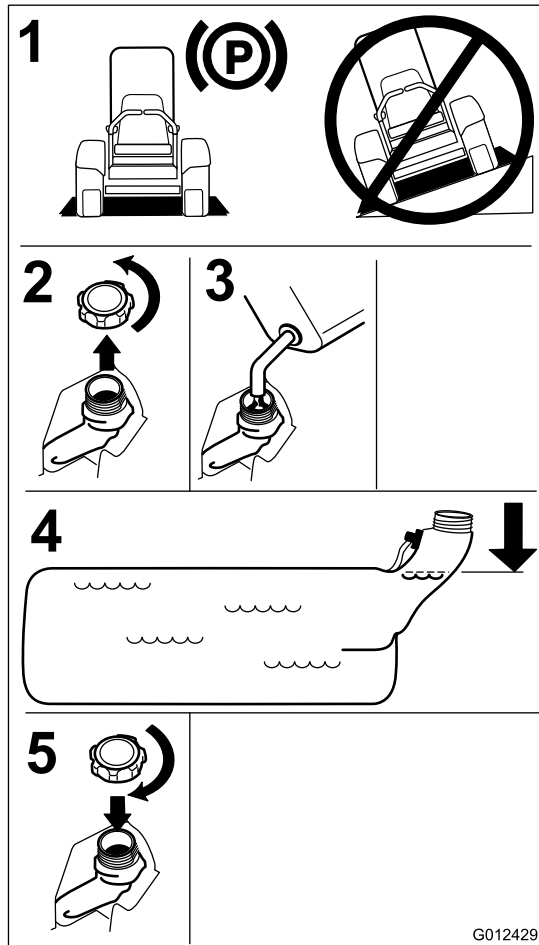

Figure 7
4. Fill the fuel tank to the bottom of the filler neck. Ensure there is empty space in the tank to allow the gasoline to expand (Figure 7).